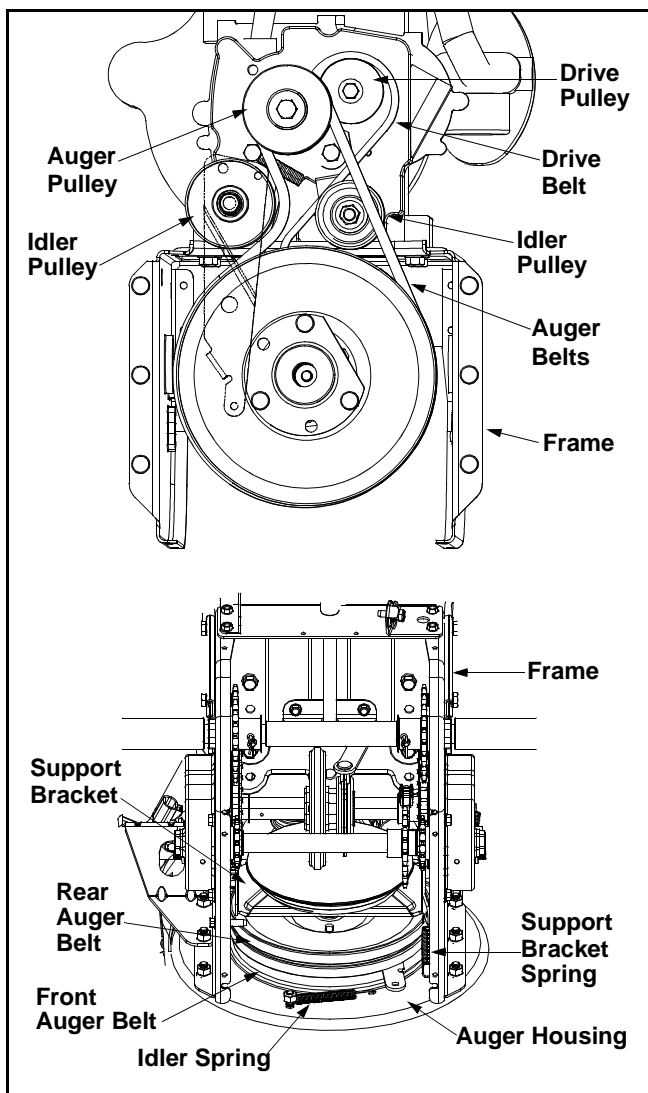

Figure 14
- Roll the front and rear auger belts off the auger drive pulley. See Figure 14.
- Unhook the idler spring from the hex bolt on the auger housing. See Figure 14.
- Pull the idler pulley up and lift the belt off the wheel drive pulley and friction wheel disc. See Figure 14.